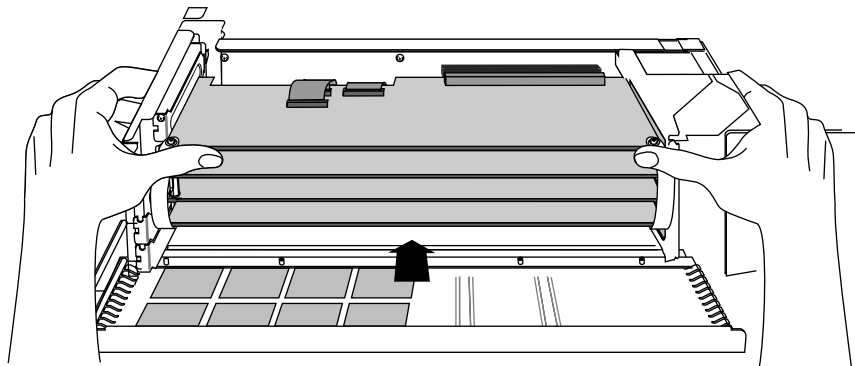

Figure 2-24 Inserting the Board Set into the Chassis
2. Slide the boards into the chassis and push the board connectors into the corresponding midplane connectors (Figure 2-24). Putting pressure on the topmost board of the set helps to seat the boards completely.